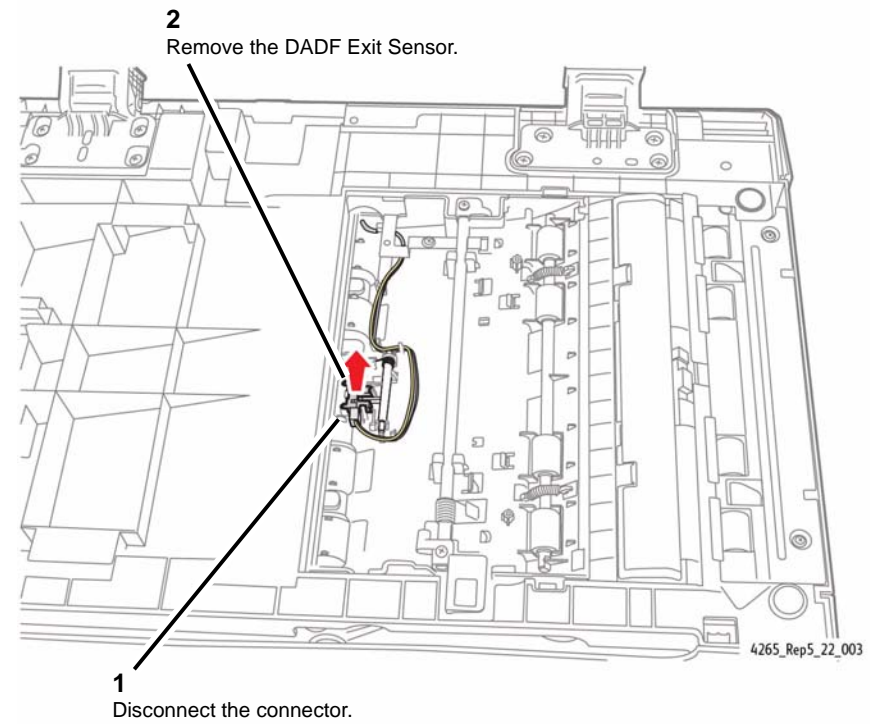

Figure 3 Removing the DADF Exit Sensor
6. Remove the DADF Exit Sensor (Figure 3).